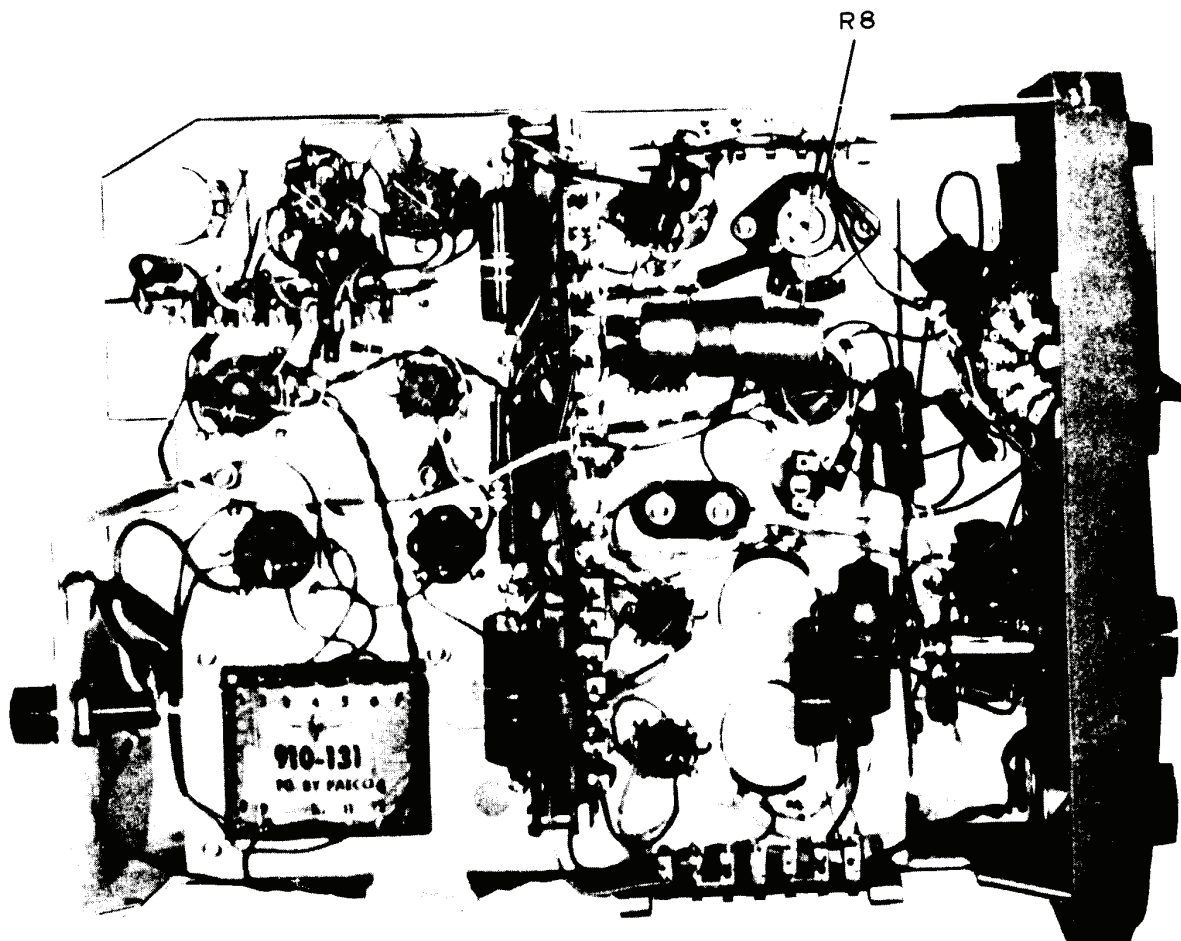

Figure 4. Test instrument - left side view.
- (1) Set **BOLO BIAS CURRENT** (**BIAS CURRENT** on TS-779/U) switch to **OFF**.
- (2) Rotate **ZERO SET COARSE** and **FINE** controls fully cw.
- (3) Rotate R8 (fig. 4) fully cw and then one eighth turn ccw.
(8) Note error from 1.0 V on multimeter and adjust R8 (fig. 4) to double the error. (For example, if multimeter indicates 0.9 V, adjust R8 until multimeter indicates 0.8 V.) (R).
(9) Repeat (4) through (8) above until no error is present.